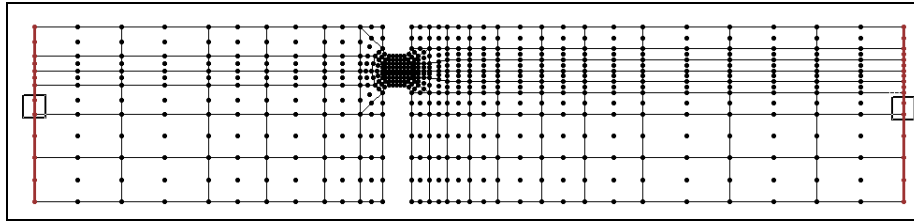

Figure 2. Location of the boundary condition nodestrings.
A steady state model such as this can only have constant boundary conditions. The flow and head boundary conditions will be defined at nodestrings on opposite sides of the model as shown in Figure 2. To create the two boundary nodestrings:
1. Choose the *Select Nodestrings*  tool from the *Toolbox*. An icon appears at the center of each nodestring, as shown in Figure 2.